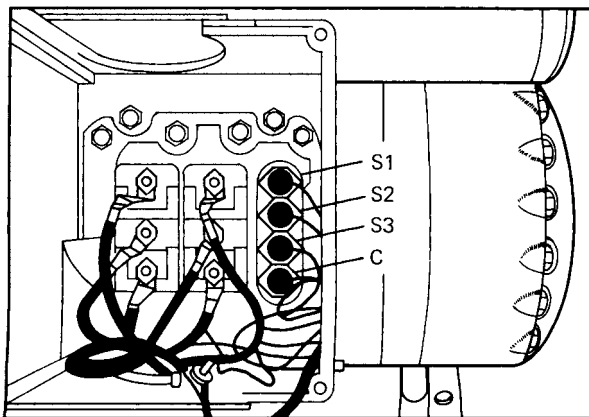

Figure 11-33 Compressor terminal board. (Courtesy of Robertshaw)
Leads from the internal motor sensors are connected to the compressor terminals as shown in Fig. 11-33. Leads from the compressor terminals to the control
- a. Remove the wiring connections from the sensor and common terminals on the compressor board (see Figs. 11-33 and 11-34).
In the unlikely event that one sensor is damaged and has an open circuit, the control module will prevent compressor operation even though the motor may be in perfect condition. If such a situation should be encountered in the field, as an emergency means of operating the compressor until such time as a replacement can be made, a properly sized resistor can be added between the terminal of the open sensor and the common sensor terminal in the compressor terminal box (see Figs. 11-33 and 11-35). This then indicates to the control module an acceptable resistance in the damaged sensor circuit, and compressor operation can be restored. The emergency resistor should be a 2 watt, 82 ohm, wire wound with a tolerance of $\pm 5\%$.